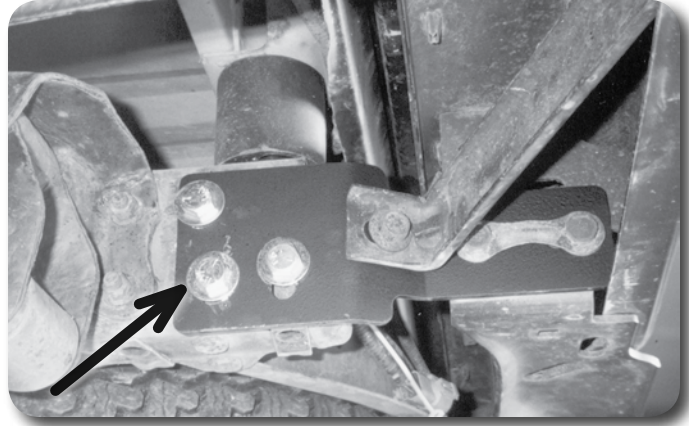

Figure 20
73. Mount new bumper brackets to the bumper as shown in **Figure 20** using stock hardware. Attach the outside support brackets to new bumper brackets using the stock hardware. DO NOT tighten any mounting hardware at this time.